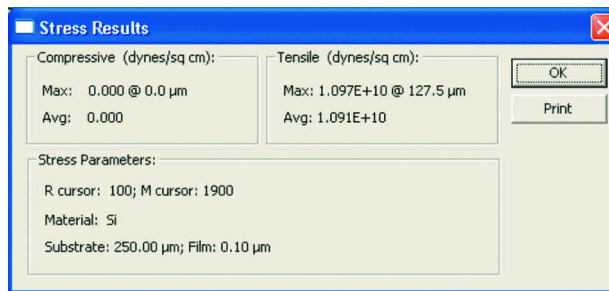
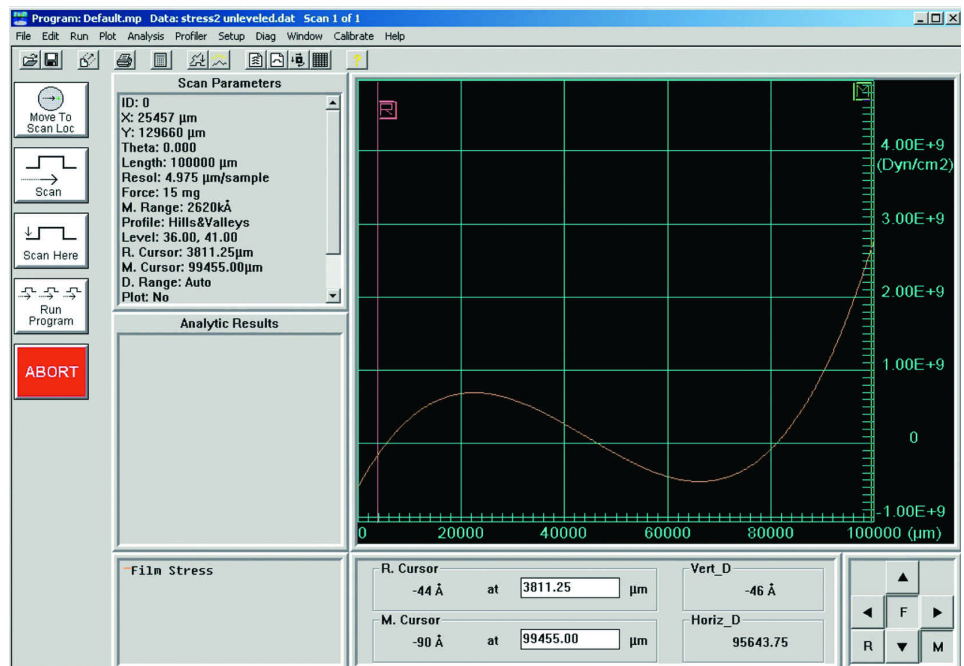

Figure 5. Stress Results Summary Window.
Figure 6. Stress Measurement results. The orange trace indicates that both tensile and compressive stresses are present following deposition.
21. At the bottom of the dialog, click Select to locate the pre-deposition scan data. Click OK to calculate the film stress and display the results (Figure 5). The results can be printed as well. The results are also displayed as a plot (Figure 6). Downward curvature in the plot indicates compressive stress; upward curvature indicates tensile stress.